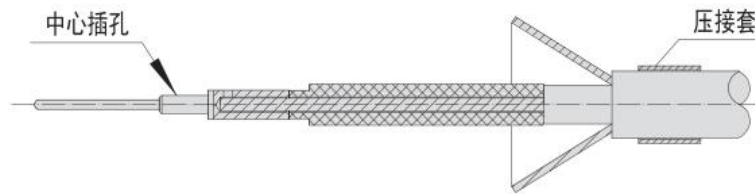

Figure 1.11
④ Assemble the center pin to the cable center conductor as shown in Figure 1.11, and the cable center conductor can be seen through the observation hole on the tail of the center socket. Use the crimp tool--M22520 / 2-01 of 5 gear, and locator, M22520 / 2-35 to crimp.